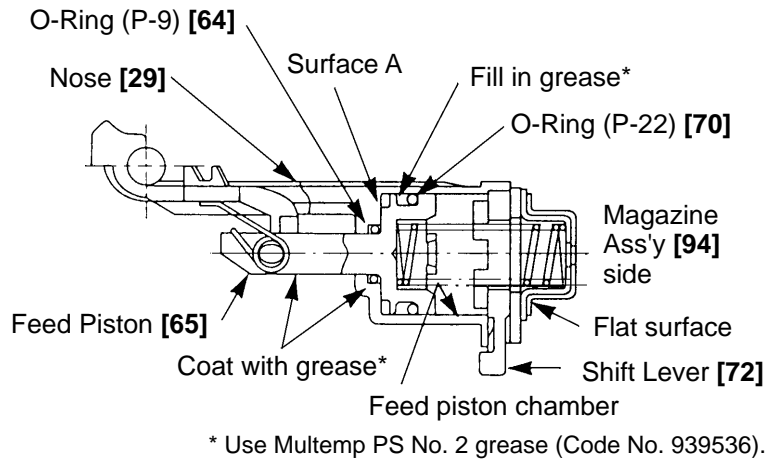

Fig. 13
- Move the O-Ring (P-22) [70] on the Feed Piston [65] to the right as indicated in Fig. 13, and fill the groove with grease*. Note, however, that too much grease on the surface A in Fig. 13 makes the motion of the Feed Piston [65] sluggish (particularly in a lower air pressure).